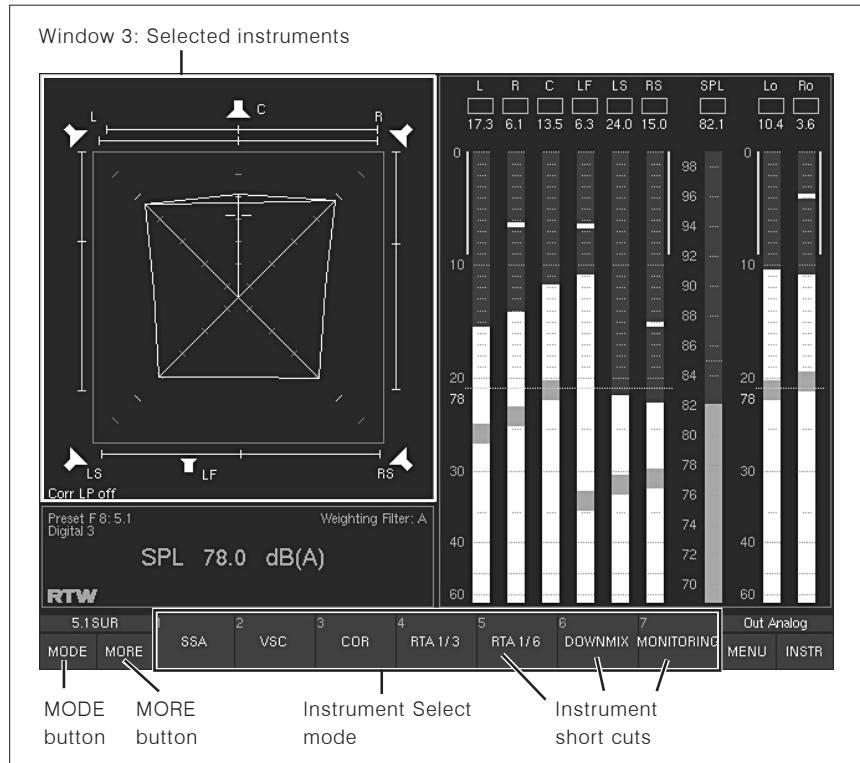

Fig. 3-6: The Surround Sound Analyzer displayed in window 3 and the first instrument selection level (displayed after selecting **MODE**) in the Toolbar
1. Press the **Mode** key/button on the Remote Control 30050 (31900 series) and the control panel of the 31960 series or click the **MODE** button in the Toolbar (screen window 1, see Fig. 2-1). The buttons numbered 1 to 7 in the Toolbar switch to Instrument Select mode and show the first seven available instrument types (display modes, see Fig. 3-6).